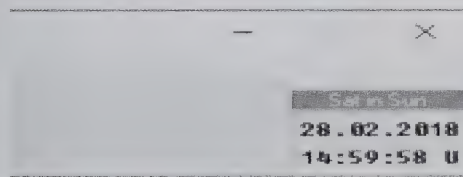

Figure 15.
D) Time and Eclipse Indicator: Time will be displayed either in UTC ("U") or local ("L"), as depicted in Figures 15, 16. Changing between UTC and Local is set by the "Local Time" checkbox in "Settings>>Options."
Eclipsed" (Figure 15, 16). For a few satellites, this indicator reflects whether a particular satellite's transponder is on or off depending on whether the satellite is in Eclipse or is in the Sun. For example, AO-7 only works when its solar panels are in the sun. Also, see notes for AO-73, EO-79, EO-88 on the AMSAT "Amateur Satellite Frequency Guide" for information on those satellites' restrictions.